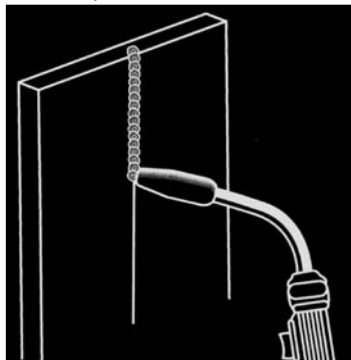

Figure 17. Vertical Position
3. The VERTICAL POSITION (Figure 17) is the next most difficult position. Pulling the torch from top to bottom may be easier for many people, but in some instances it can be difficult to prevent the puddle from running downward. Pushing the torch from bottom to top may provide better puddle control and allow slower rates of travel speed to achieve deeper penetration. When vertical welding, angle B (see HOLDING THE TORCH - p.18) is usually always kept at zero, but angle A will generally range from 45 to 60 degrees to provide better puddle control.